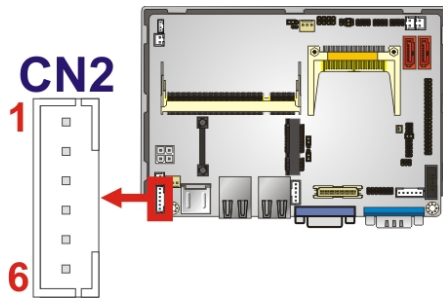

Figure 3-5: LED Connector Locations
- CN Location:** See **Figure 3-5**